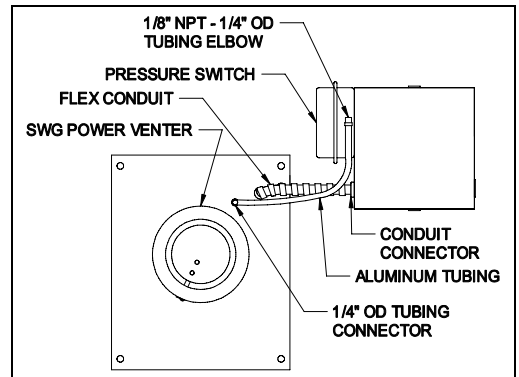

Figure 3
2. Fasten the flexible conduit from the SWG Venter into the conduit connector. Mount the CK-43 junction box or installer supplied junction box onto the wall or floor joist without straining the flexible conduit. Fasten the CK-43 junction box through the four dimpled locations on the base of the box. (See Figure 3)
1. Attach the 1/4 inch tubing connector to the pressure tube on the SWG Venter. (See Figure 3)